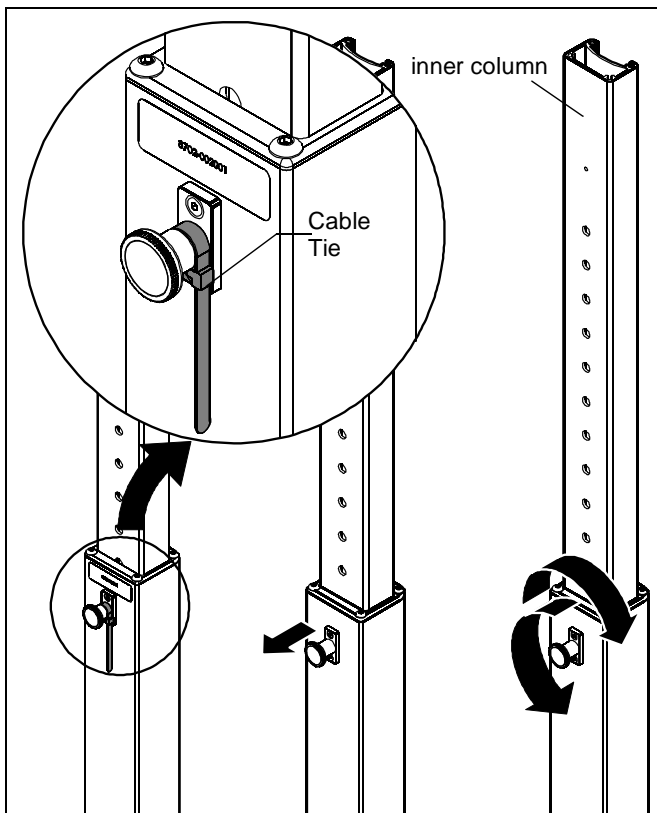

Figure 1
IMPORTANT ! : Press cable tie tab to loosen and remove cable tie from around knob post. (See Figure 1)
1. Lift up slightly on the inner column of center post and hold firmly toward top of post. (See Figure 1)
2. Pull out knob on the center post and turn 90° in either direction to disengage the locking mechanism. (See Figure 1)
3. Raise the inner column and turn the knob 90° in either direction to engage the knob and lock the column in place. (See Figure 1)
- Follow Steps 1-4 (and Figures 1, 2 and 3) of **Assembling Base for Single Display Stand**.